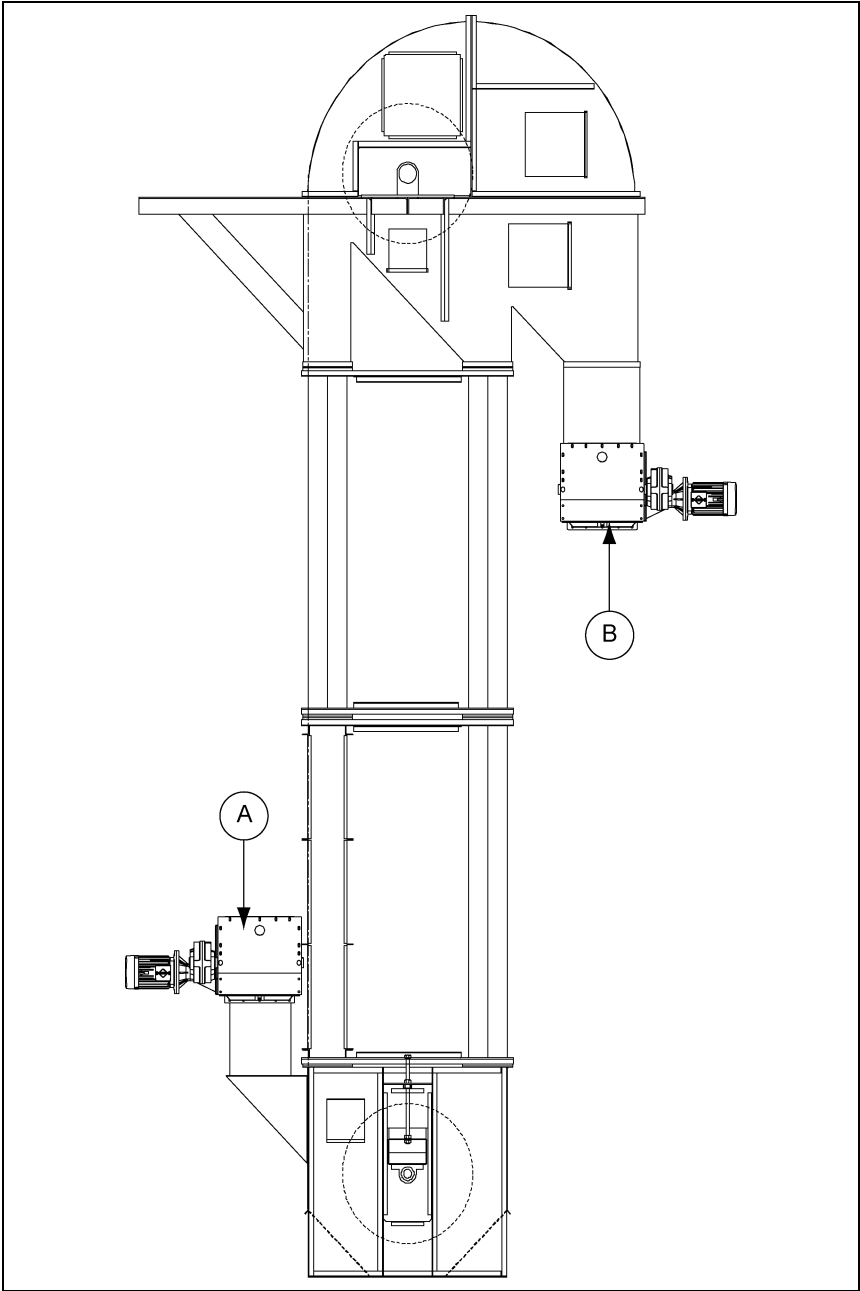

Figure 2A Example of Enclosed Inlet and Outlet
- 2. Never operate the Bucket Elevator without completely enclosing the inlet or outlet, making all moving parts in-accessible to any person. (See Figure 2A.)